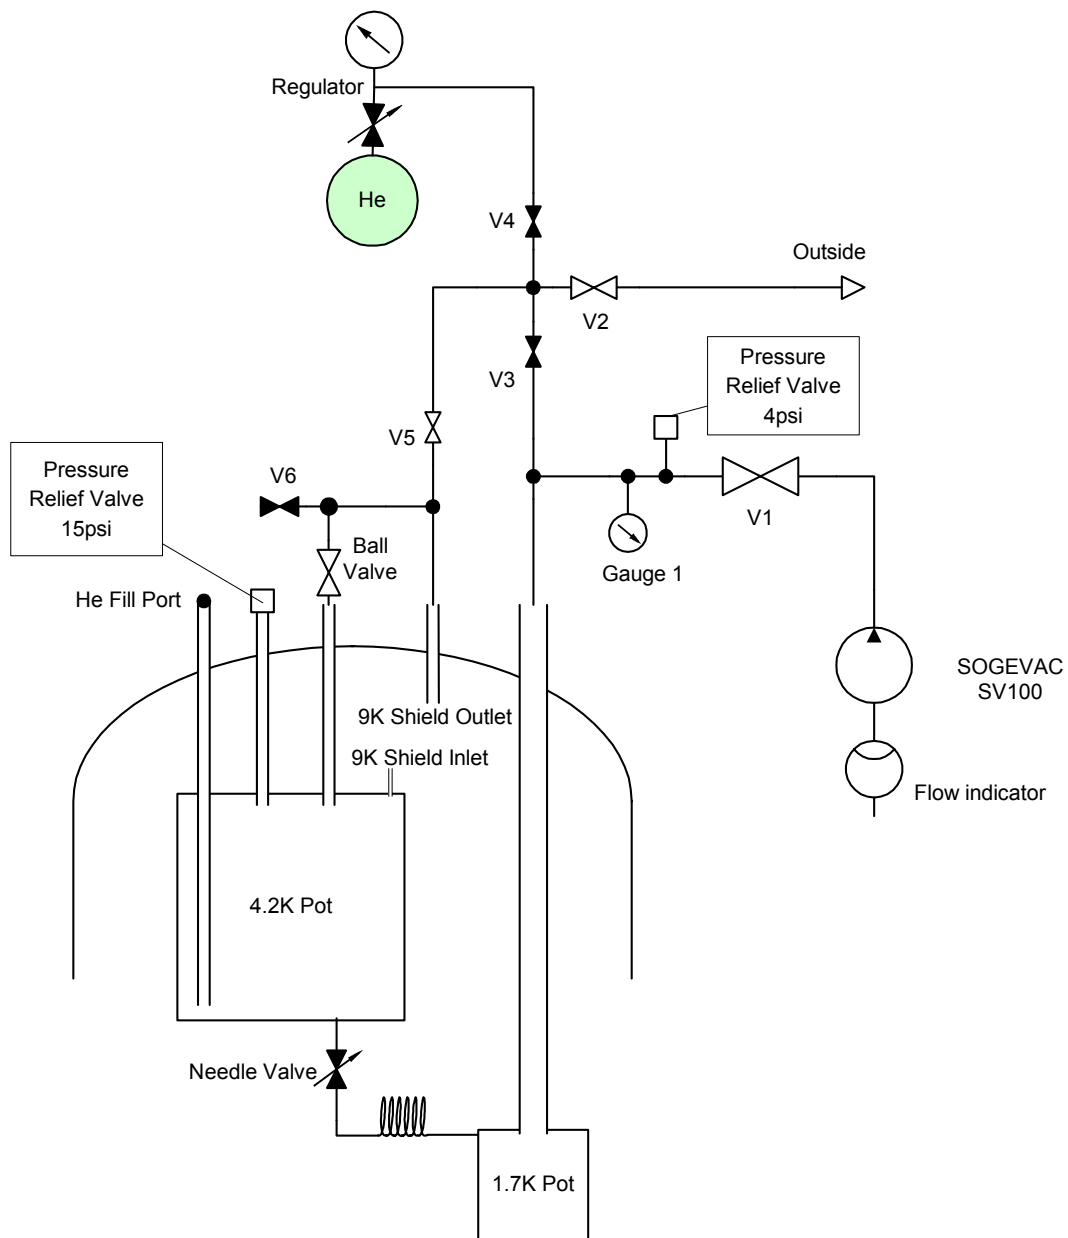

Figure 4: Schematic of He tank purge/fill system
1.1.	Attach a supply of warm, dry, high purity helium gas as shown in Figure 4. Open regulator on He supply to 2psi . Use fine regulator to set to 2psi and check flow with flowgauge. Check that the 1.7 K vessel is protected by a 4-psi pressure relief valve. Close all valves. Attach blanking plate to He fill port to provide vacuum seal.